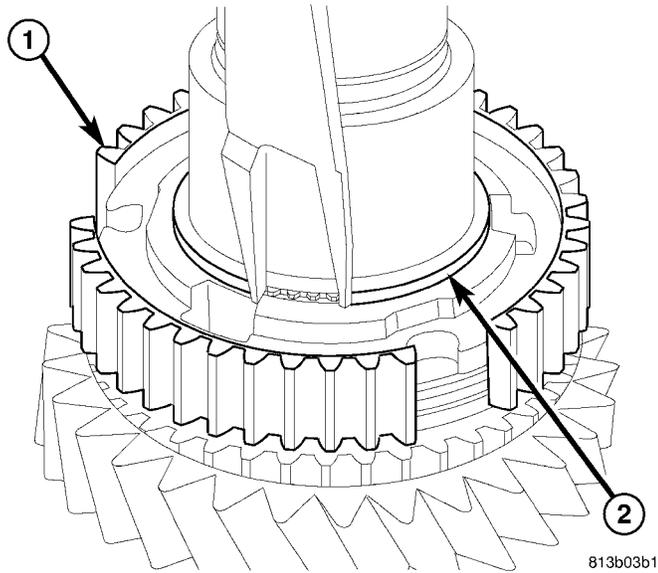

Fig. 34 1-2 SYNCHRO HUB SNAP RING
(19) Remove 1-2 synchronizer hub (1) (Fig. 34) snap ring (2).